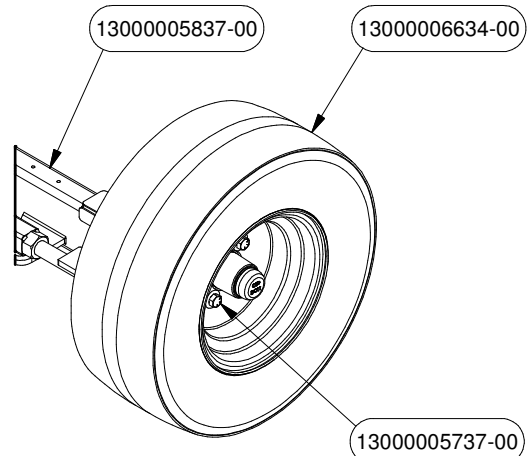

FIGURE 52
5. Attach the Tires PN# 6634 to the Axle using the Wheel Bolts PN# 5737 as shown in Figure 52.